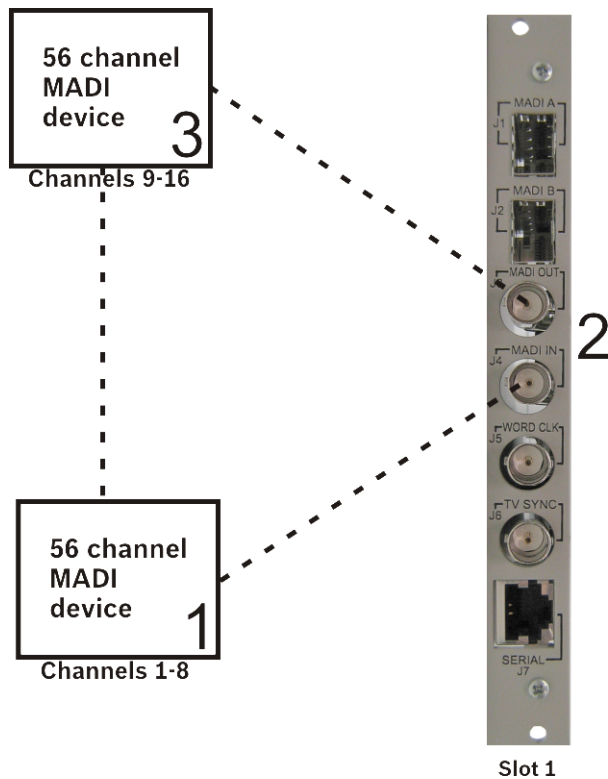

FIGURE 3. MADI Merge Example
The example shown in Figure 3 shows two (2) MADI devices sending 8 channels each to one (1) MADI 16 Plus Card. The audio path for the channels is as follows: